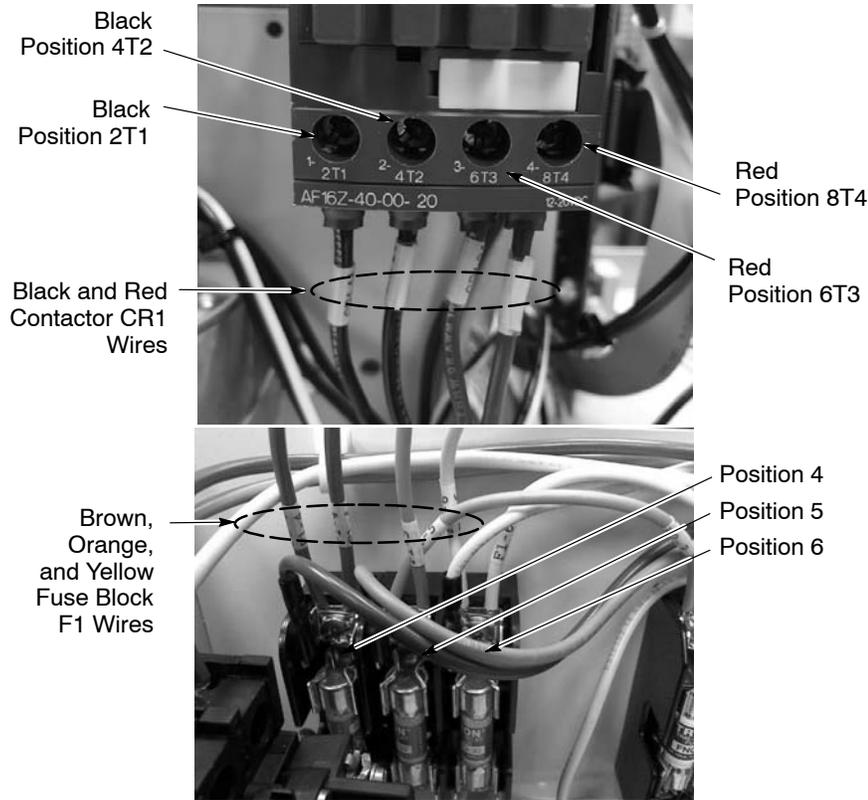

Figure 7 Remove Old Cables from Contactor and Fuse Block
7. See Figure 7. Loosen the terminal screws to remove the cables from the contactor CR1 and fuse block F1. Set the old cables aside for proper disposal (see the *Board and Cable Disposal* section for instructions on proper disposal).